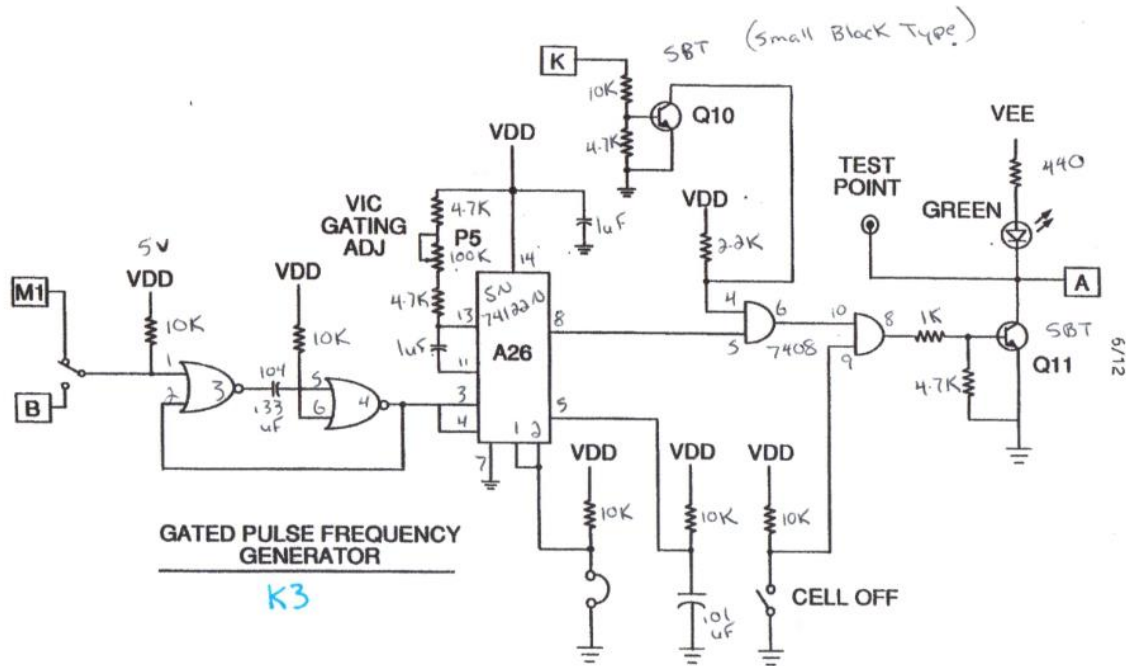
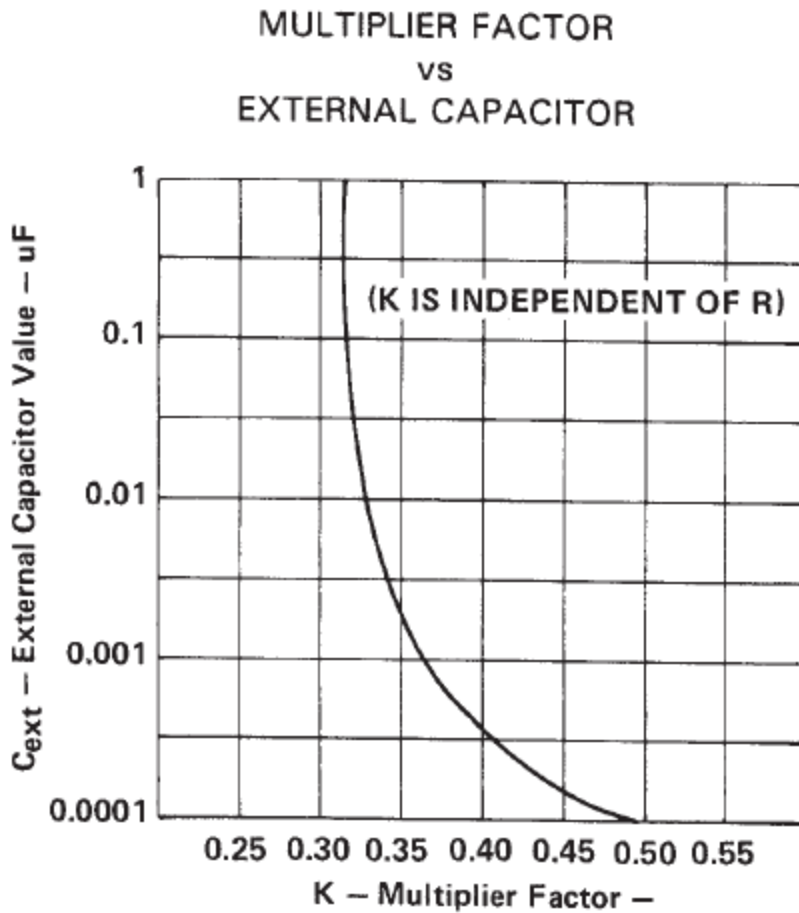

FIGURE 6
FIGURE 7
K is multiplier factor, see Figure 7
The basic output pulse duration is essentially determined by the values of external capacitance and timing resistance. For pulse durations when $C_{ext} \leq 1000$ pF, use Figure 6, or use Figure 7 where the pulse duration may be defined as:
- K is multiplier factor, see Figure 7